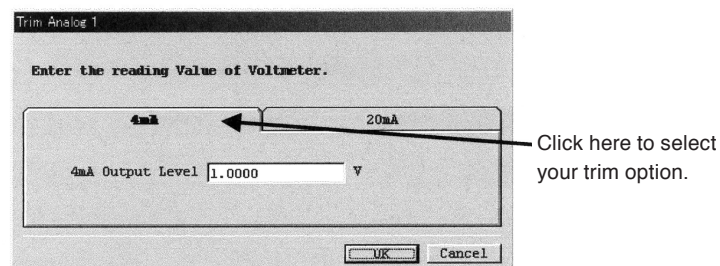

Fig.111
- ⑨ A message box like the one shown in Fig. 111 appears. Select either the 4mA trim or the 20mA trim. Firstly the 20mA trim is described here, followed by the 20mA trim. Key in the reading of the test instrument and click on "OK" button.
- ⑩ To proceed to the 20mA trim, click on the 20mA at the message box like the one shown in. Fig. 111 and, similar to the 4mA trim procedure, trim the reading until the test instrument connected registers 5V.